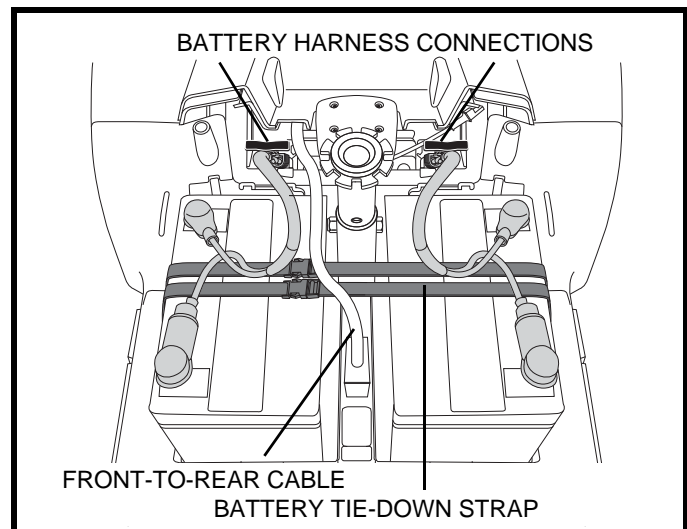

Figure 22. Harness Connections
5. Unplug both battery harnesses by pulling each harness out of its mating plug. **See figure 22.**
8. Connect both battery harnesses. **See figure 22.**